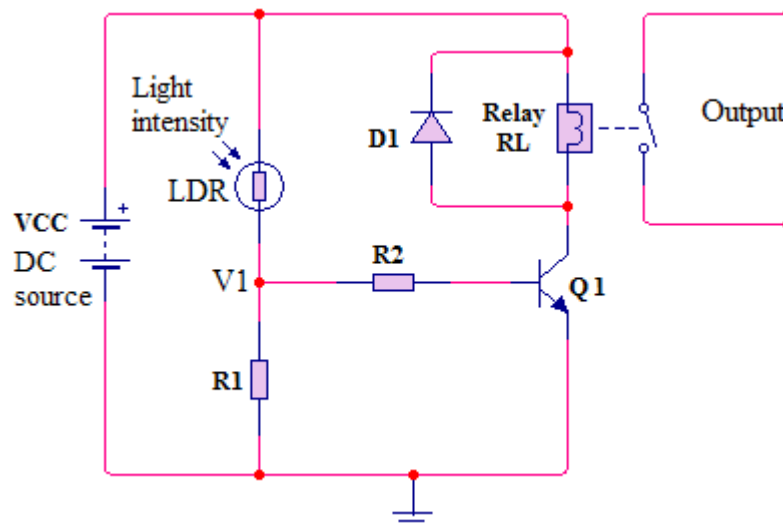
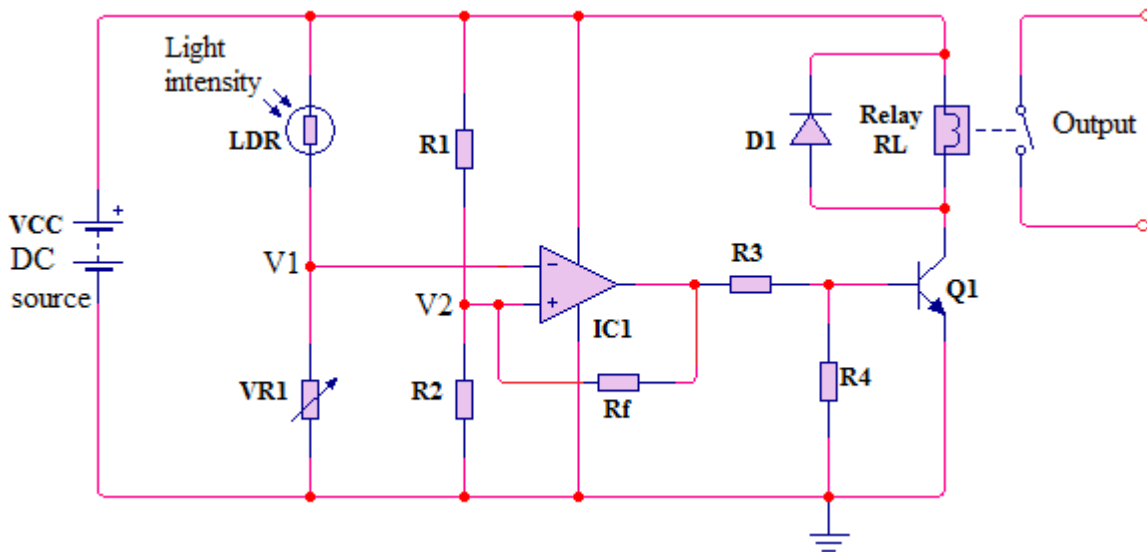

Figure 5-4: LDR Switch
Figure 5-5: Light Level Sensing Circuit
- One simple application of a Light Dependent Resistor, is as a light sensitive switch as shown in figure 5-4.
This type of simple circuit shown in figure 5-4 has a fairly low sensitivity and its switching point may not be consistent due to variations in either temperature or the supply voltage. A more sensitive precision light activated circuit can be easily made by incorporating the LDR into a “Wheatstone Bridge” arrangement and replacing the transistor with an Operational Amplifier as shown in figure 5-5.
In this basic dark sensing circuit of figure 5-5, the light dependent resistor LDR_1 and the potentiometer VR_1 form one adjustable arm of a simple resistance bridge network, also known commonly as a *Wheatstone bridge*, while the two fixed resistors R_1 and R_2 form the other arm. Both sides of the bridge form potential divider networks across the supply voltage whose outputs V_1 and V_2 are connected to the non-inverting and inverting voltage inputs respectively of the operational amplifier.